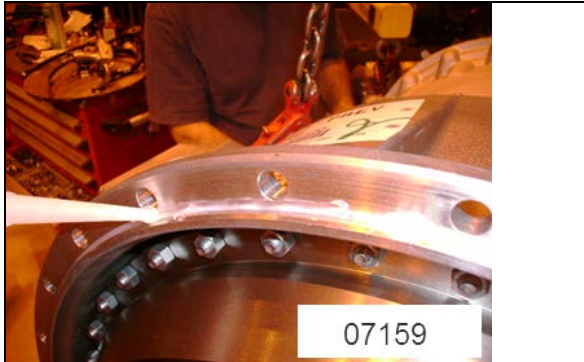

FIGURE 12: SILICONE APPLICATION TRANSMISSION HOUSING
- Apply clear silicone (Prevost #680457 or equivalent) around the edge of the transmission housing (Figure 12: silicone application transmission housing).